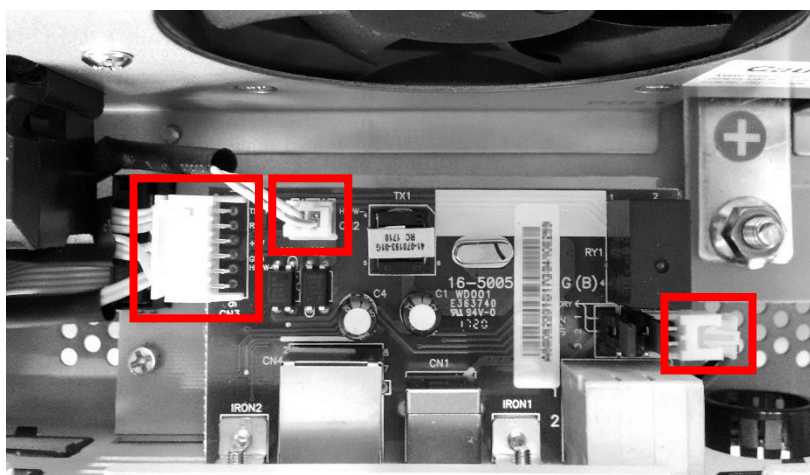

Figure 2: Remove connectors on communication board
2. Undo the three cable connectors (one 6-Pin and two 2-Pin) of the communication board as shown in *Fig. 2*. Make sure to mark them beforehand for a correct re-assembly later. The communication board is pre-assembled on every Solarix PLI inverter.